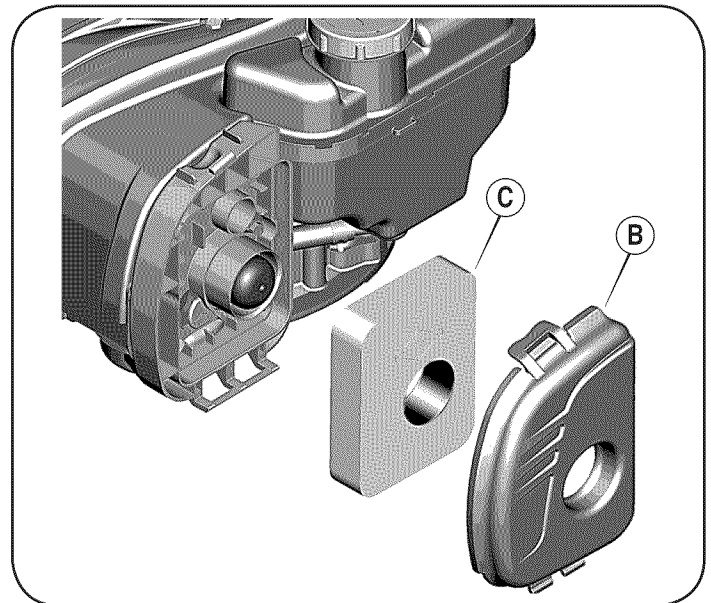

Figure 15
1. Open the cover (B) and remove the foam element (C). See Figure 15.